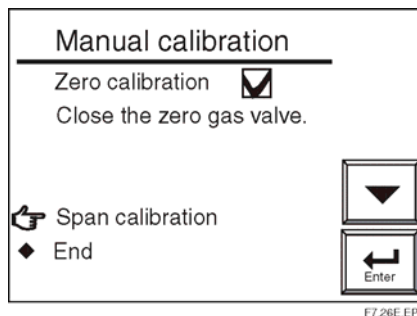

Figure 7-31 Zero Calibration Complete Display
9. After the measured value has stabilized, press the [Enter] key to display the “zero-calibration complete” display screen shown in Figure 7-31. At this point, the measured value is corrected to the zero-gas concentration. Close the zero-gas flow valve. The valve lock-nut should be tightened completely to prevent the zero gas from leaking.
10. Select End in the display screen as shown in Figure 7-31. An oxygen concentration trend graph screen appears and “HOLD TIME” flashes. This time is referred to as the output-stabilization time. If the HOLD TIME has been selected in the output-hold configuration, the analog output is held (refer to Section 1.46, “Setting Output Hold”). Manual calibration is completed when the preset output-stabilization time elapses. This output-stabilization time is set to 10 minutes at the factory before shipment. If the [Enter] or [Return] keys are selected during the output-stabilization time, manual calibration is completed and the analyzer returns to process monitoring.